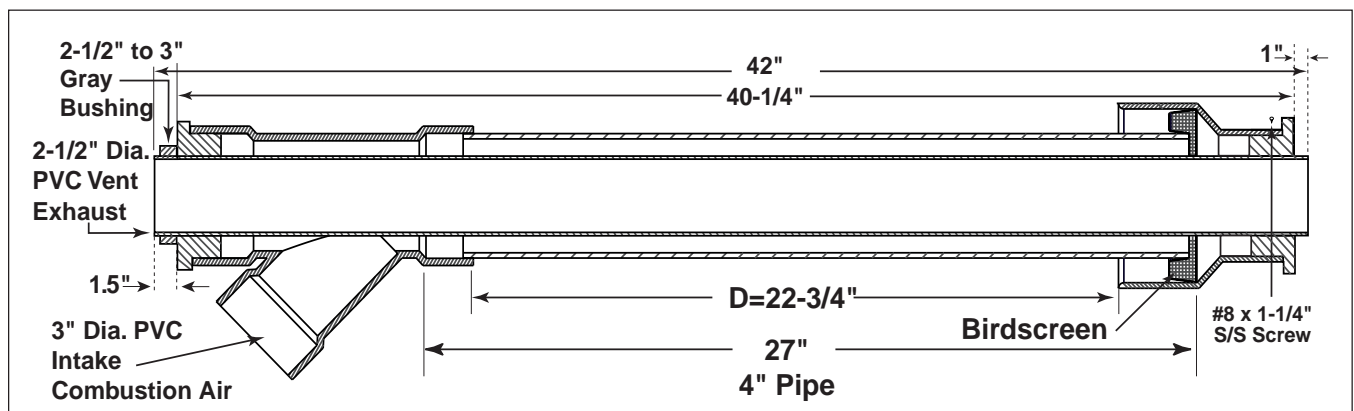

Figure 2. Dimensions
nation height is above the roof surface or anticipated snow level (1 ft. in U.S.A. or 1-1/2 ft. in Canada). If assembly is too short to meet height requirement, the 2 pipes supplied in the kit may be replaced by using same diameter, field supplied SDR-26 PVC (D2241) pipe. Do not expand dimension "D" more than 60 inches (See Figure 2).
6. Install the birdscreen into the rain cap. Install the rain cap assembly over the piping assembly, making sure to seat the 4" pipe at the center of the birdscreen. Adjust the assembly to allow the 2 1/2" pipe to protrude approximately 1" (See Figure 2). Failure to center the raincap over the piping may damage the screen. Secure the rain cap to the vent pipe assembly with the included #8 x 1-1/4" stainless steel sheet metal screw. Drill a 1/8" pilot hole before securing the screw. Failure to drill the pilot hole may cause the plastic pipe to crack.
NOTE: If assembly needs to be extended, the 2 pipes supplied in the kit may be replaced by using same diameter, field supplied SDR-26 PVC (D2241) pipe. Do not expand dimension "D" more than 60 inches (See Figure 2).
6. Install the birdscreen into the rain cap. Install the rain cap assembly over the piping assembly, making sure to seat the 4" pipe at the center of the birdscreen. Adjust the assembly to allow the 2 1/2" pipe to protrude approximately 1" (See Figure 2). Failure to center the raincap over the piping may damage the screen. Secure the rain cap to the vent pipe assembly with the provided #8 1-1/4" stainless steel screw. Drill a 1/8" pilot hole before securing the screw. Failure to drill the pilot hole may cause the plastic pipe to crack.